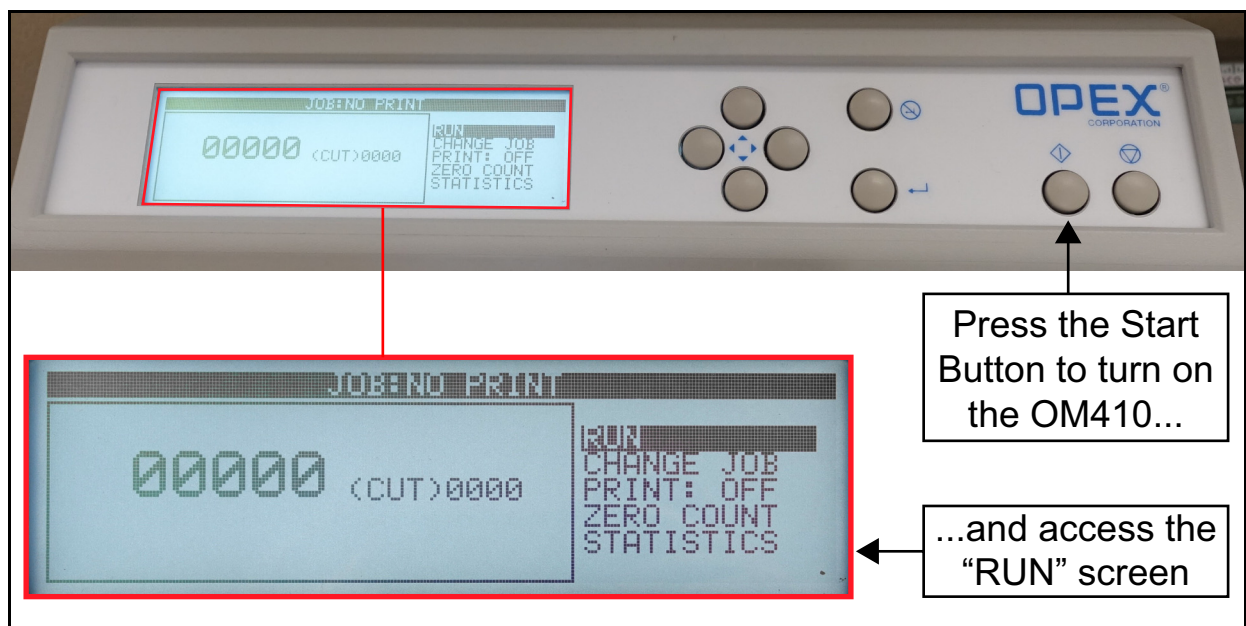

Figure 3-7: Start Button
4. Press the **Start button** to turn the Series 410 on (Figure 3-7). This will bring up the **RUN** screen.